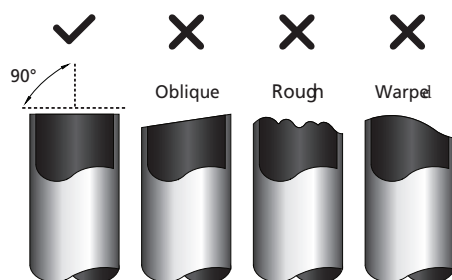

Fig. 8.1
1. Make sure that the pipe is cut at a perfect 90° angle. Refer to Fig. 8.1 for examples of bad cuts.